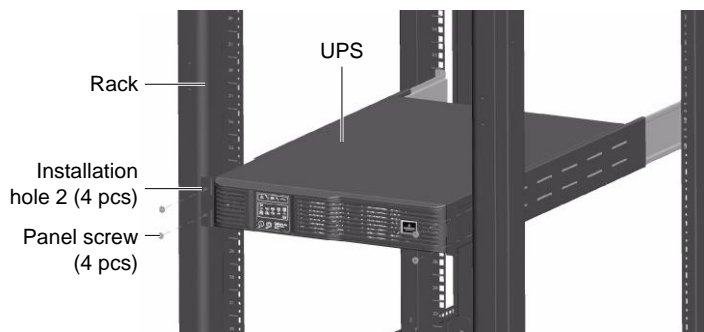

Figure 2-12 Installing UPS
4. Place the UPS on the guide rails in the rack, and push it completely into the rack. Use four M6 × 16 screws to fix the UPS in the rack through the installation hole 2 of the brackets, as shown in Figure 2-12.